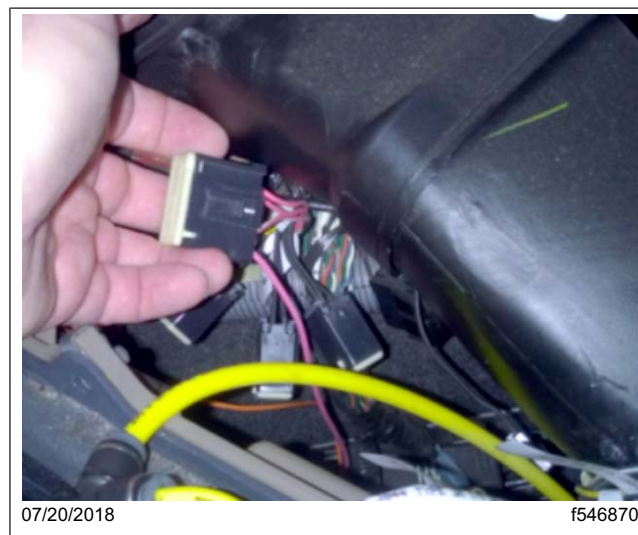

Fig. 3, Locating the Ignition Splice Pack
6. Locate the ignition (IGN) splice pack behind the auxiliary B panel. The wires in this splice pack are marked 81C. See **Fig. 3**.